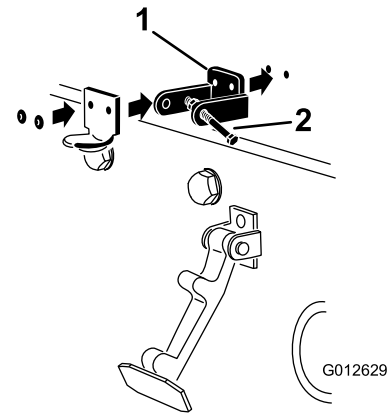

Figure 8
4. While aligning the mounting holes, position the CE lock bracket and the hood-latch bracket onto the hood (Figure 8).
6. Rivet the brackets and the washers to the hood (Figure 8).